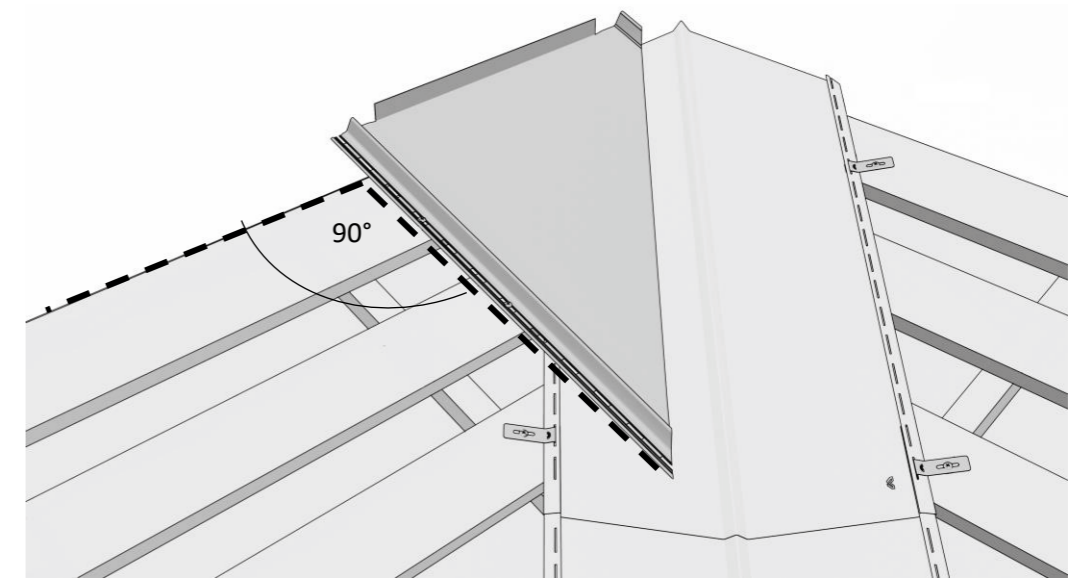

Fig. 19
- Install the panels perpendicularly to the ridge (Fig. 19).